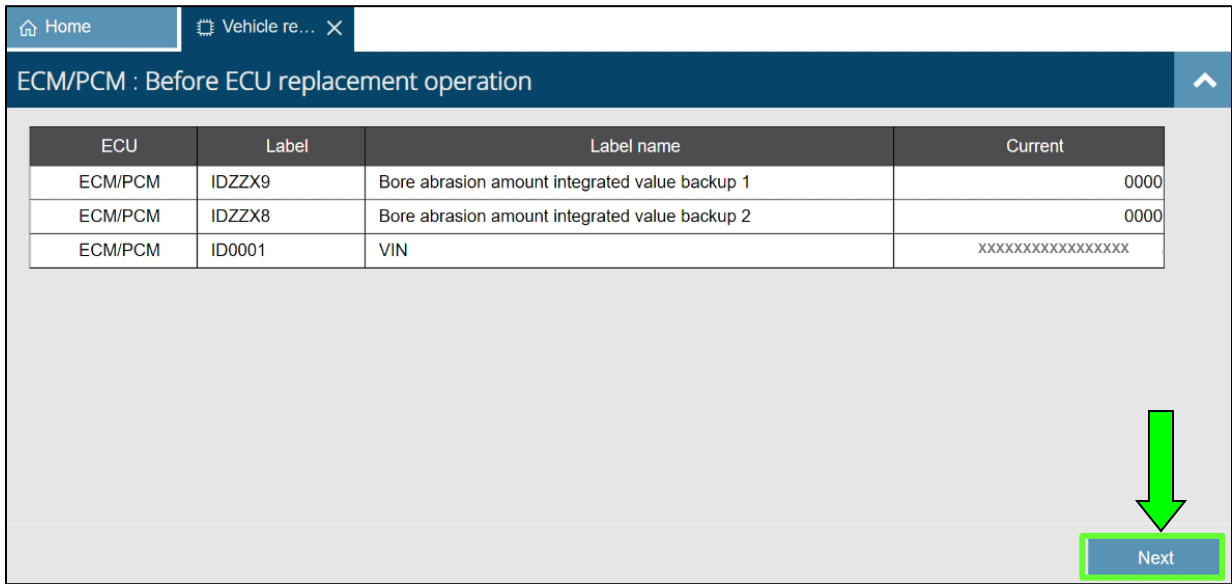

Figure 20
21. When the screen shown in Figure 20 is displayed, select **Next**.